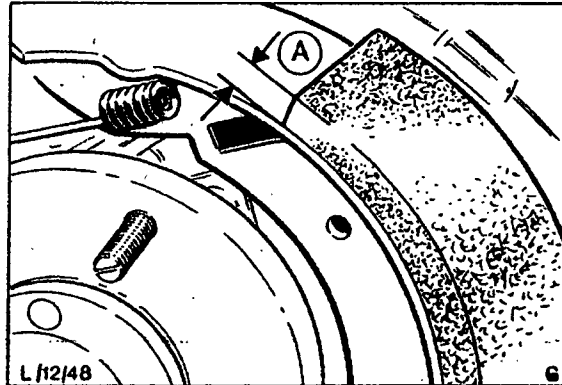

Fig.17. Rear brake lining wear.
2. Visually inspect condition of linings using a lamp. There should always be at least 1,0 mm (0,040 in) thickness of lining material, Fig.17.